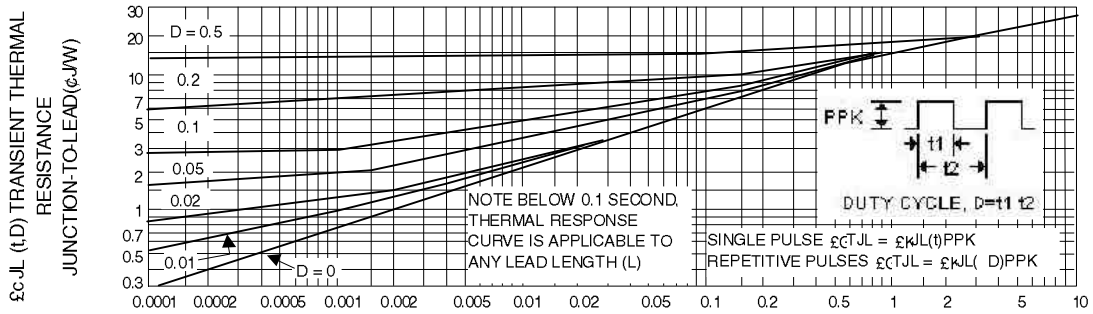
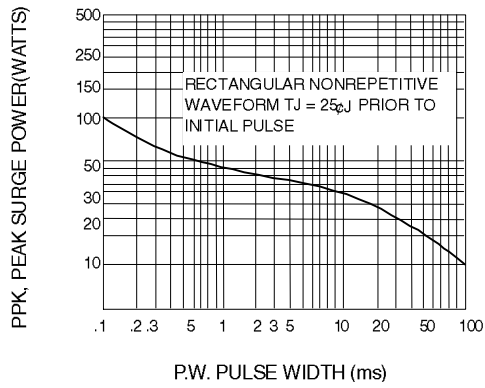
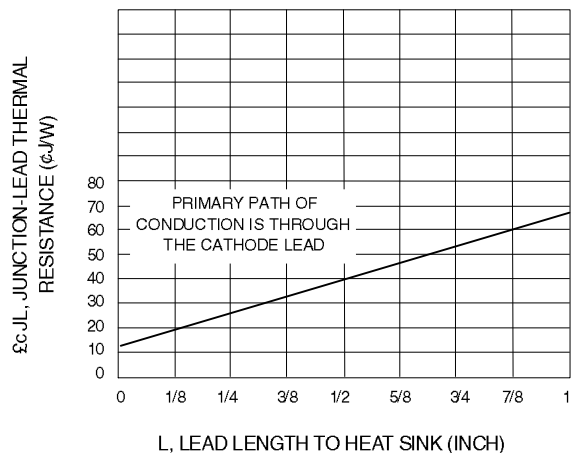

Fig. 2-TYPICAL THERMAL RESPONSE L,
Fig. 3-MAXIMUM SURGE POWER
Fig. 10-TYPICAL THERMAL RESISTANCE
4. SURGE CURRENT (Ir) NON-REPETITIVE - The rating listed in the electrical characteristics table is maximum peak, non-repetitive, reverse surge current of 1/2 square wave or equivalent sine wave pulse of 1/120 second duration superimposed on the test current, IZT, per JEDEC standards, however, actual device capability is as described in Figure 3.
$\Delta T_{JL}$  is the increase in junction temperature above the lead temperature and may be found from Figure 2 for a train of power pulses or from Figure 10 for dc power.
Data of Figure 2 should not be used to compute surge capability. Surge limitations are given in Figure 3. They are lower than would be expected by considering only junction temperature, as current crowding effects cause temperatures to be extremely high in small spots resulting in device degradation should the limits of Figure 3 be exceeded.